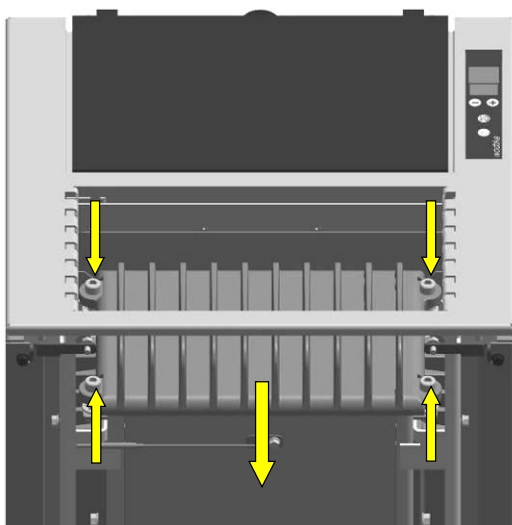

Fig. 88: removal of cast cover
2. Unscrew the four fastening screws of the cast cover and remove the cover toward the front (Fig. 88).